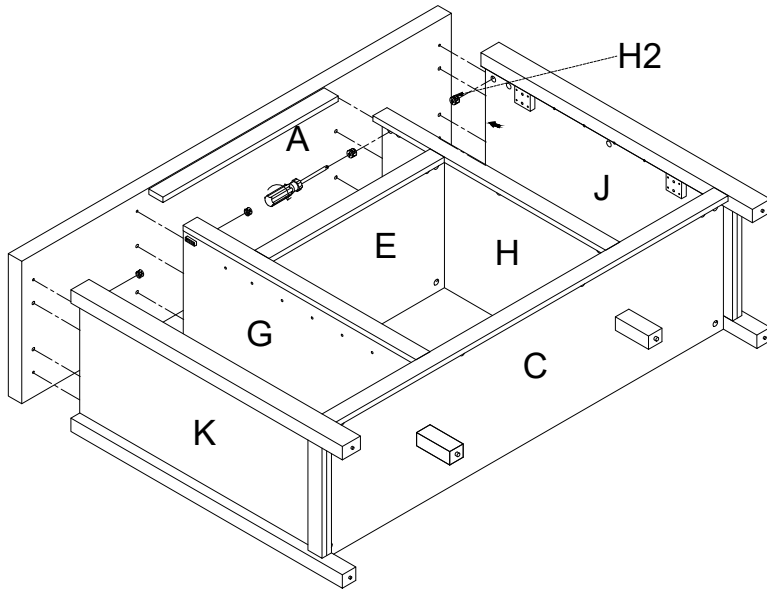

Figure 12
With assistance from another adult, align the Cam bolts (H1) in Top (A) with the holes in Left side panel (J), Left partition (G), Right partition (H) and Right side panel (K) and slide into place as shown in figure 12. Secure Top (A) to Left side panel (J), Left partition (G), Right partition (H) and Right side panel (K) with Cam lock (H2) and tighten using screwdriver (Not provided) as shown in figure 12.